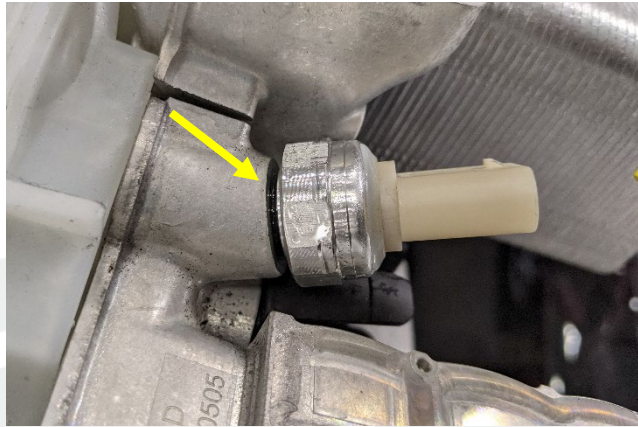

Figure 9 – O-ring just makes contact
- a. Install and hand-tighten the low pressure P/T sensor until the sensor O-ring just makes contact with the Supermanifold (Figure 9).